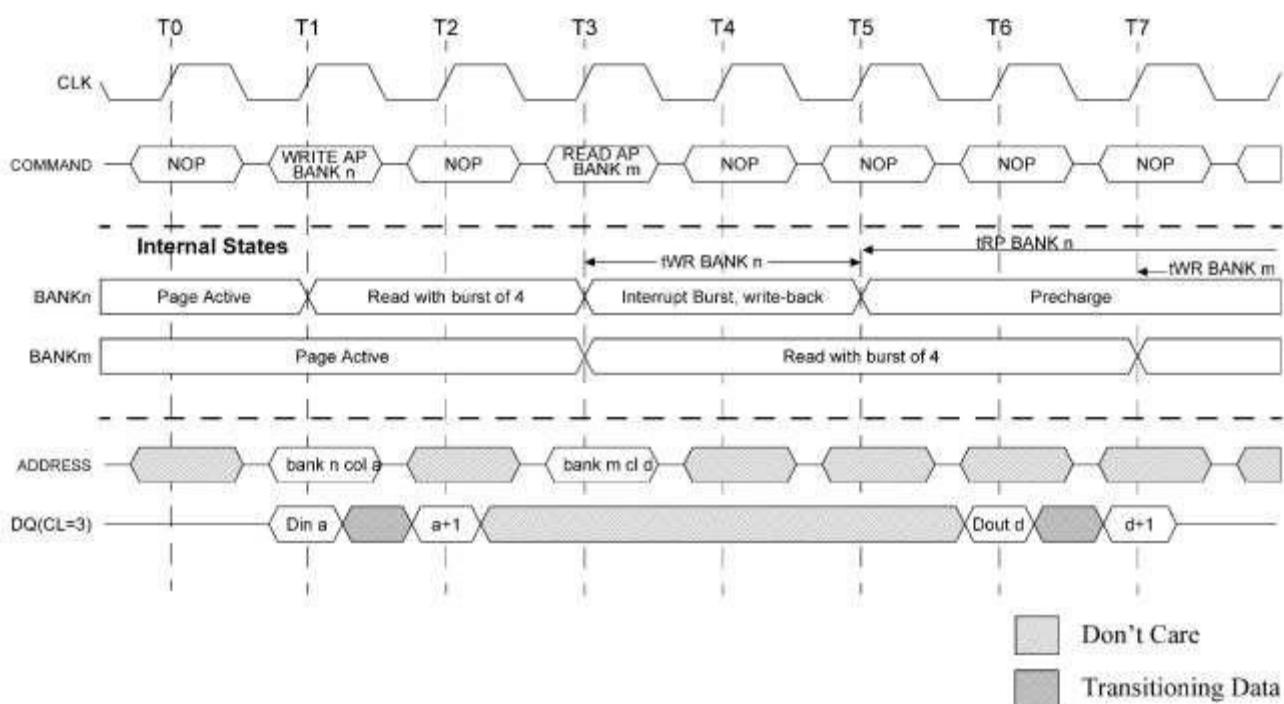

Figure 29: WRITE with Auto Precharge Interrupted by a READ
Interrupted by a WRITE (with or without auto precharge): A WRITE to bank m interrupts a READ on bank n when registered. DQM should be used two clocks prior to the WRITE command to prevent bus contention. The PRECHARGE to bank n will begin when the WRITE to bank m is registered (see Figure 29).
Interrupted by a READ (with or without auto precharge): A READ to bank m interrupts a WRITE on bank n when registered, with the data-out appearing C_L later. The PRECHARGE to bank n begins after t_{WR} is met, where t_{WR} begins when the READ to bank m is registered. The last valid WRITE to bank n will be data-in registered one clock prior to the READ to bank m (see Figure 29).
16. For a WRITE with auto precharge interrupted by a READ (with or without auto precharge), the READ to bank *m* interrupts the WRITE on bank *n* when registered, with the data-out appearing C_L later. The PRECHARGE to bank *n* will begin after tWR is met, where tWR begins when the READ to bank *m* is registered. The last valid WRITE to bank *n* will be datain registered one clock prior to the READ to bank *m* (Figure 29).